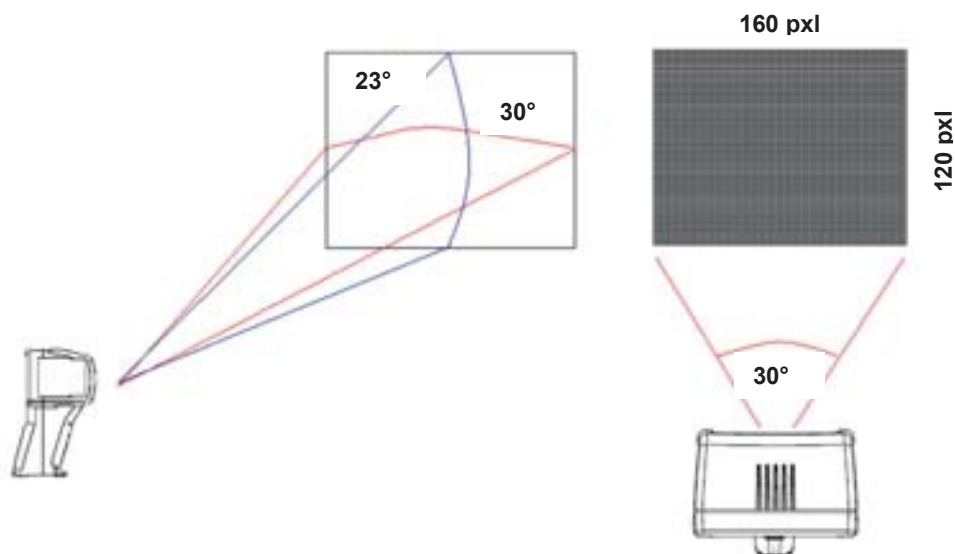

Fig. 71: Representation of the instruments field of view (FOV) (THT60)
4. For accurate temperature measurements, make sure the surface of the measured object is always bigger than the surface measurable by the instrument, which is given by the instruments field of view (FOV). The instrument has a field of view of $30^\circ \times 23^\circ$ and a detection vector of 160x120 (19200) pixels (see Fig. 71) (THT60)